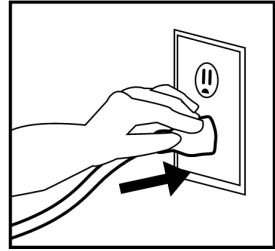

Fig 22
3. Unlock the battery pack by turning knob clockwise and take the battery pack out from the vacuum.(Fig 22)